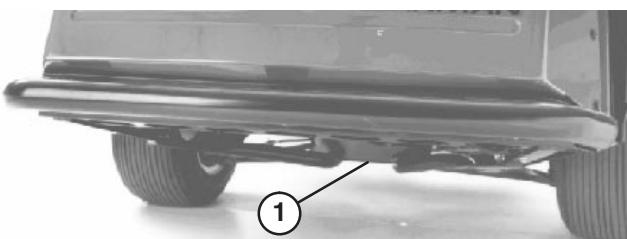

**Figure 36**
3. Push bed support onto cylinder rod, making sure support end tabs rest on end of cylinder barrel and on cylinder rod end (Fig. 36).